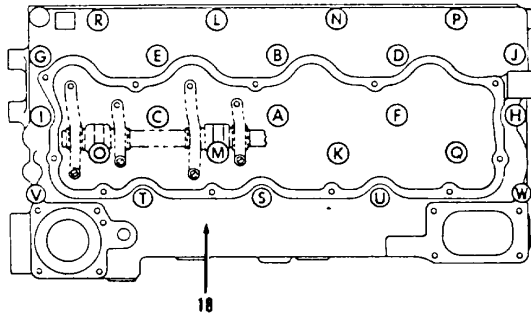

Figure 3-39.
- 7. Tighten cylinder head (18, Figure 3-39) bolts A thru R in letter sequence to 115 ft-lb torque.